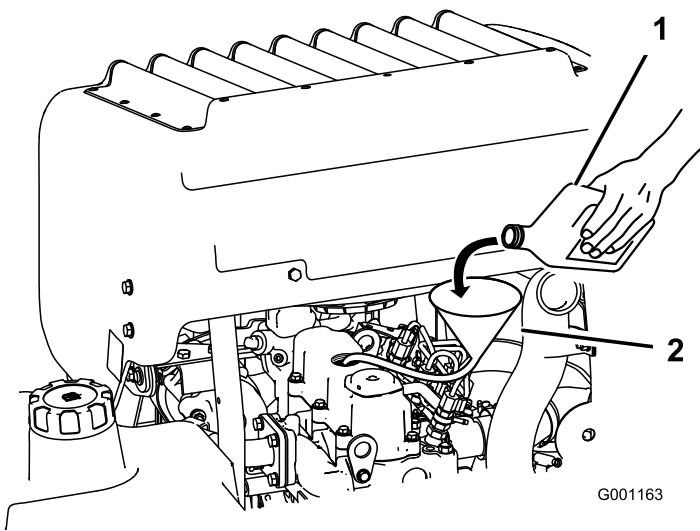

Figure 53
3. Use a hose and funnel to add oil to the engine (Figure 53).